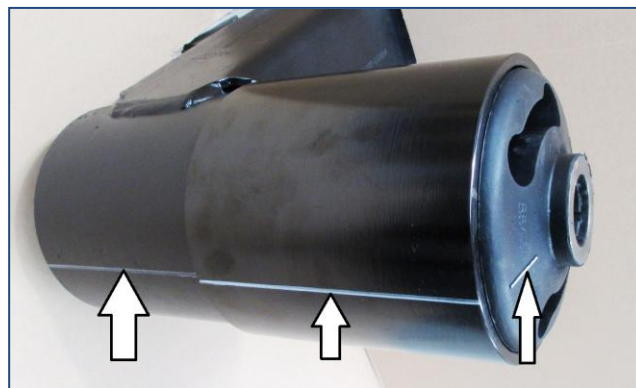

Fig.6
2. Mark the sleeve with a white line which can be aligned with the orientation line on the new bush and the already marked line on the trailing arm tube (see Fig. 6).